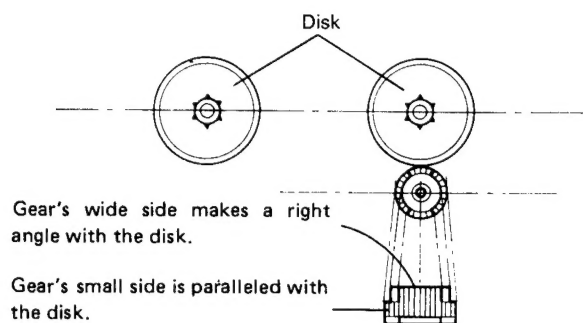

Fig. 6-13
- a) When setting the cam gear, make sure of its positioning so that the gear's wide side makes a right angle with the disk, while its small side is in parallel with the disk as shown in Fig. 6-13.